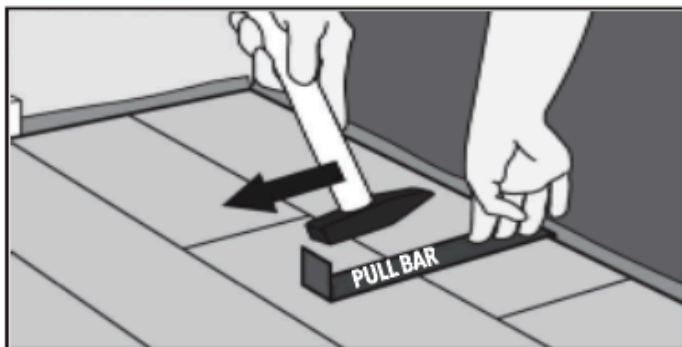

FIGURE 5A
11. Rigid Pro Ultra Flooring is unique in those difficult areas they can be installed with a pull bar or tapping block and rubber mallet. Use of a pull bar and rubber mallet to lock the joints together in the last row may be necessary. Always use a pull bar on the cut edge of the plank. Factory edges can be damaged if the pull bar is used directly against them. (Refer to Figure 5A and 5B)
WHEN FITTING AROUND A DOOR TRIM IT WILL BE NECESSARY TO SLIDE THE PLANK UNDER THE TRIM. THIS CAN BE ACCOMPLISHED EASILY BY STARTING THE ROW ON THE SIDE OF THE ROOM WITH THE DOOR TRIM AND THEN SLIDING THE PLANK INTO PLACE ONCE IT IS ATTACHED. THE ROW CAN BE COMPLETED BY INSERTING THE TONGUE INTO THE GROOVE OR THE GROOVE INTO THE TONGUE DEPENDING ON THE DIRECTION. A SPECIAL UNILIN® APPROVED TAPPING BLOCK AND PULL-BAR CAN ALSO BE USED TO LOCK THE JOINTS TOGETHER WHILE THE PLANKS ARE IN A FLAT POSITION. USE A SERIES OF LIGHT TAPS UNTIL THE JOINT IS GRADUALLY LOCKED TOGETHER. (REFER TO FIGURE 5A AND 5B)